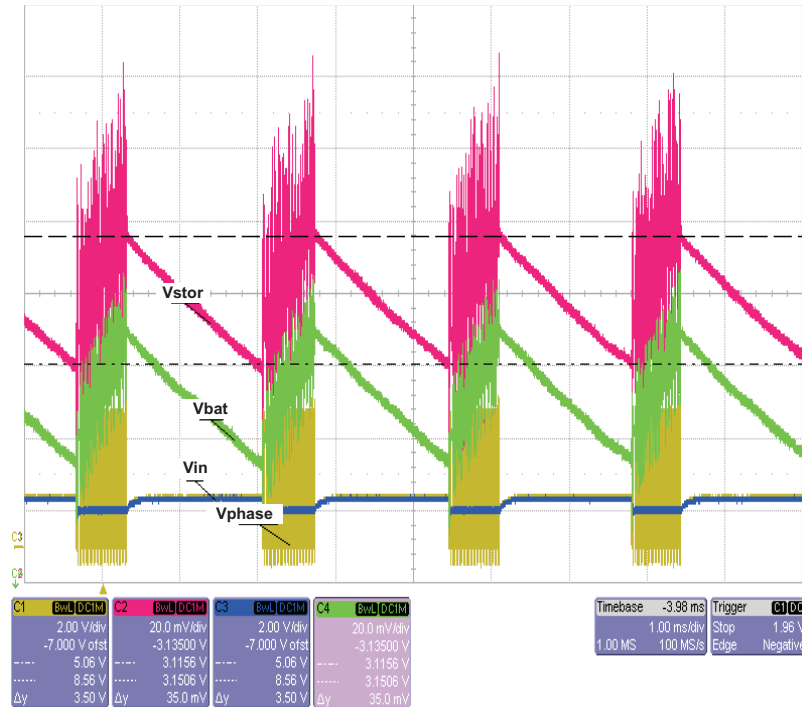

Figure 7. EVM Operation Near OV With 100-Ω Battery Impedance
2. The input source has enough energy to charge the  $V_{STOR}$  up to the OV setting; and, when the boost converter stops switching  $V_{STOR}$  will discharge down to the battery's cell voltage which is ~3V which is below the OV reset hysteresis. See Figure 7 for operation near OV. Note the hysteresis of  $V_{STOR}$  is around 35mV here, but this can vary depending on the input, output voltage, the source and battery impedance, and the number of pulses for each operation period of the boost converter.